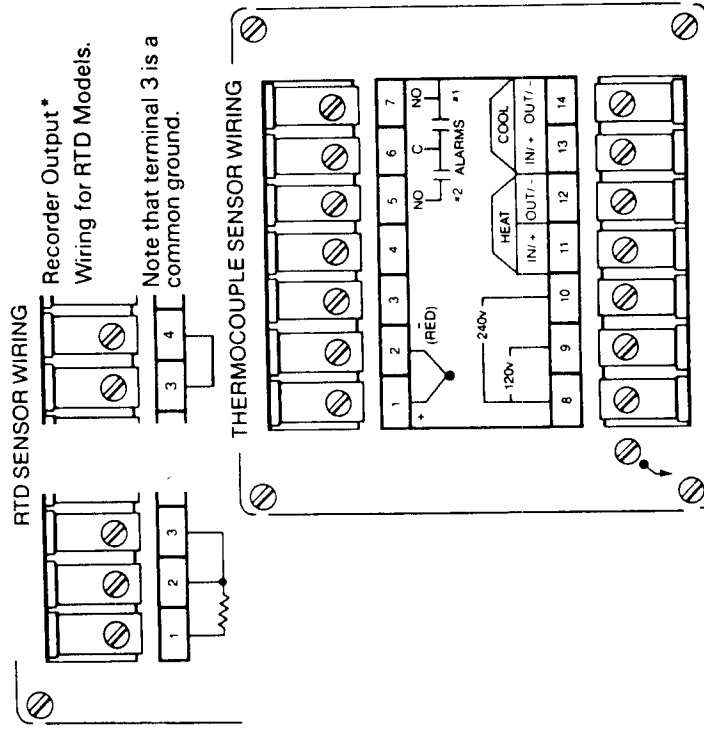

Figure 2-2. Typical Wiring Connection
Refer to Table 2-2 for the functions of the controller connection terminals. Some typical wiring examples are shown in Figure 2-2.
- a. The sensor must be connected to the terminals (see Figure 2-2).